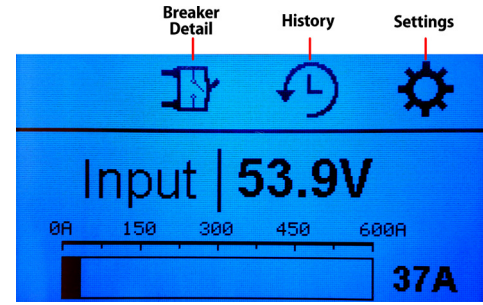

Figure 3. Home Screen - HDN Single Input
1. Input Voltage & Bus Load with a bar graph displaying total load (see Figure 3).